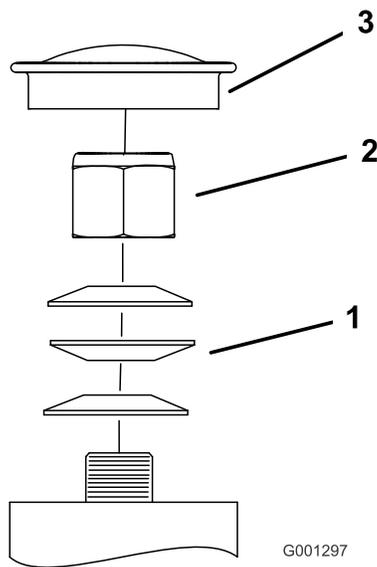

Figure 55
3. Remove the dust cap from caster and tighten locknut (Figure 55).
4. Tighten the locknut until the spring washers are flat and then back off a 1/4 turn to properly set the pre-load on the bearings (Figure 55).
Important: Make sure spring washers are installed correctly as shown in Figure 55.
5. Install the dust cap (Figure 55).